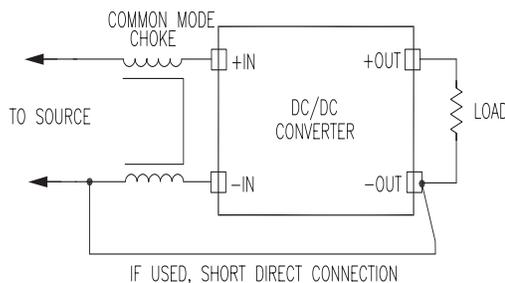

FIGURE 4c.
3. Block the common mode current from flowing out of the converter by using a common mode choke on the input side. These devices are often incorrectly referred to as a BALUN (meaning BALANCED to UNbalanced transmission line impedance transformer). They are, however, typically a small high permeability, ferrite or MPP toroid that is wound with two windings. These devices present a very low impedance to any normal mode signal flowing through the lines (DC current, for example). However, they present a very large impedance to any common mode signals that try to flow through both windings in phase, such as the DC/DC converter's common mode current (see Figure 4c).